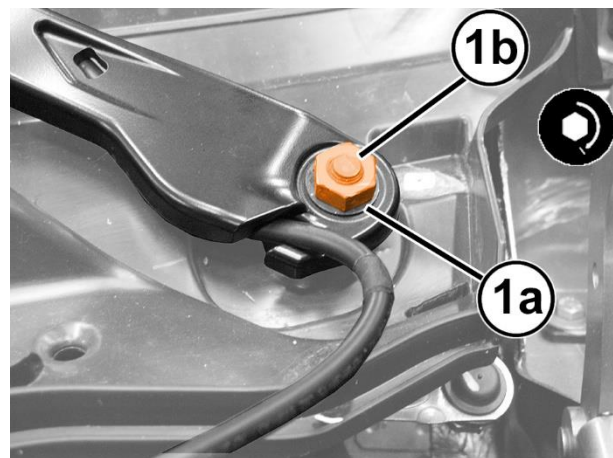

Figure 28 – Wiper Arm
62. Insert the washer (1a) and tighten the nut (1b) to the prescribed torque of 29 N·m (21 ft. lbs.) (Figure 28).